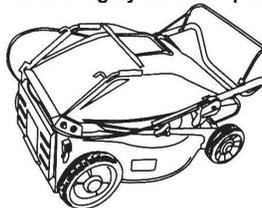

Figure 3
**REMOVE UNIT FROM CARTON. (See Figure 3)**